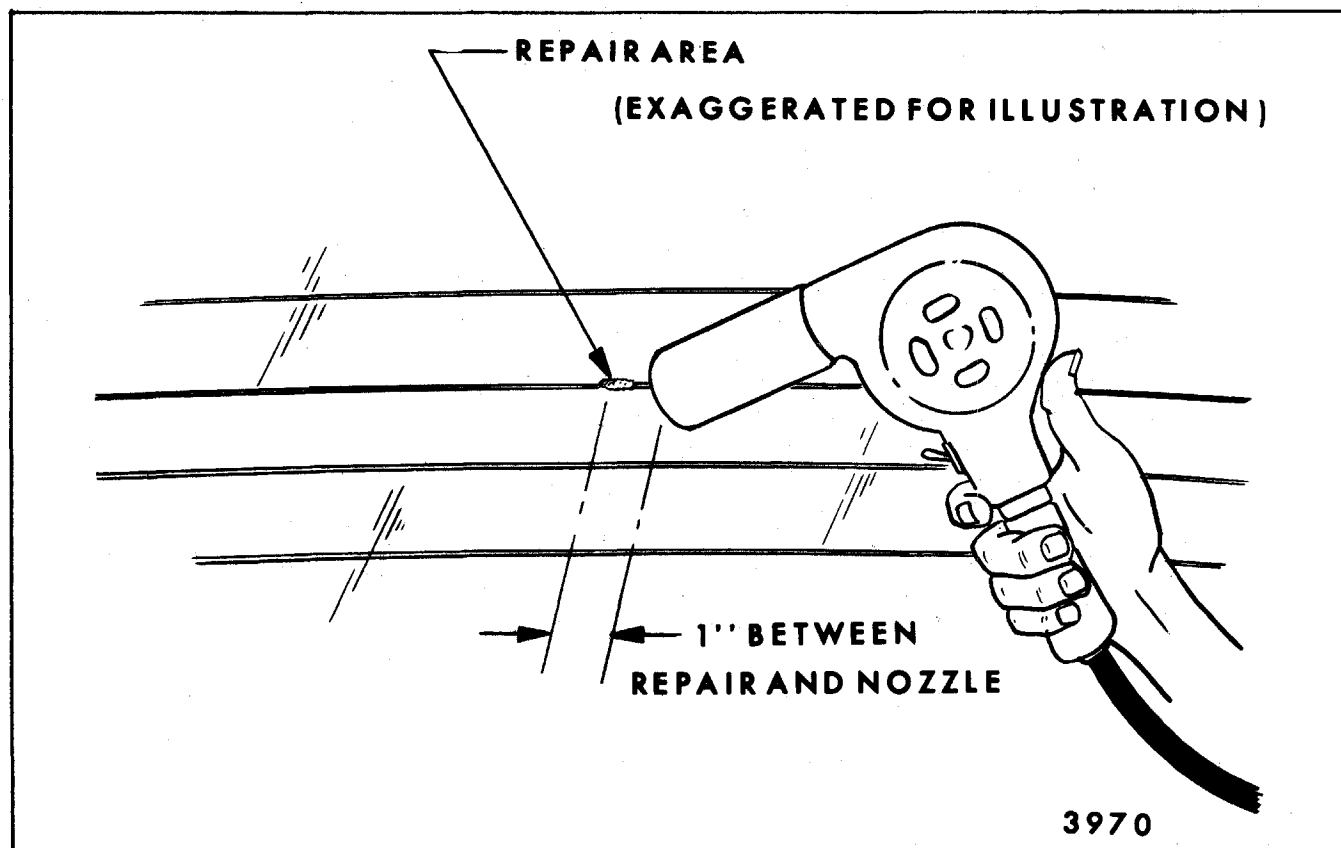

Fig. 10-127-Applying Heat to Grid Line Repair
9. Apply a constant stream of hot air directly to the repaired area with a heat gun (preferably 500°F to 700°F or 260°C to 371°C range) for 1 to 2 minutes. Heat gun nozzle should be held approximately 1" from repair (minimum of 300°F or 149°C is essential for establishing conductivity) see Figure 10-127.